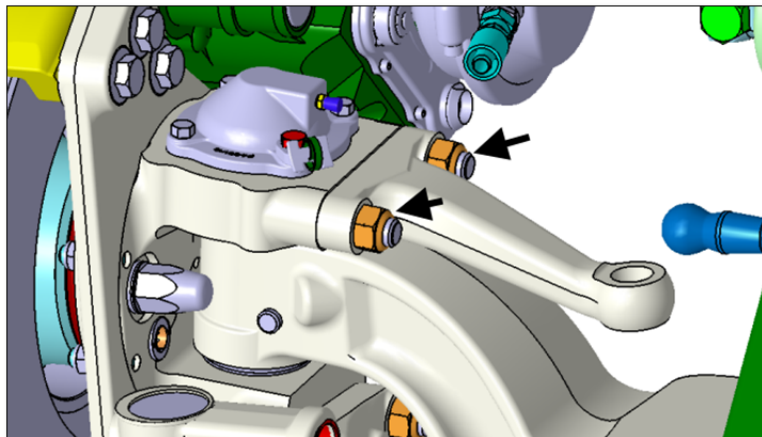

FIGURE 4 : UNSCREW THE STEERING ARM NUTS
6. Using a suitable socket, unscrew the steering arm nuts (nuts are tightened to 285-315 lbf-ft) (**FIGURE 4**).